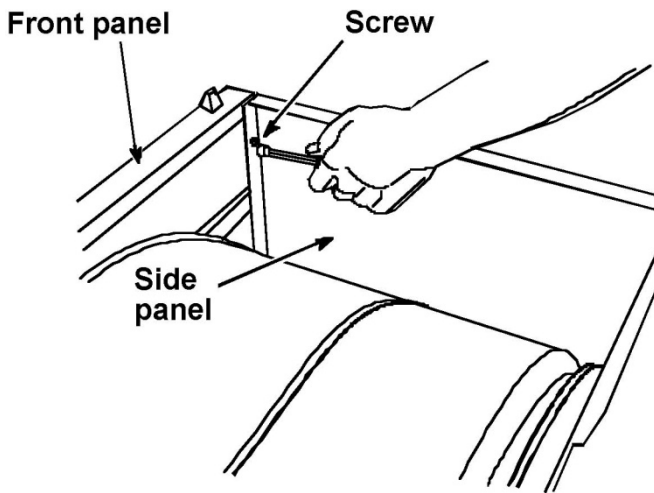

FIGURE 1
5. Remove the lint screen. Remove the two (2) screws from the lint screen area.
- Remove the two (2) internal screws from the upper inside edge of the front panel flanges. Using gloves, lift front panel off the lower clips (front of drum will drop slightly). Set front panel aside. See *Figure 1*.